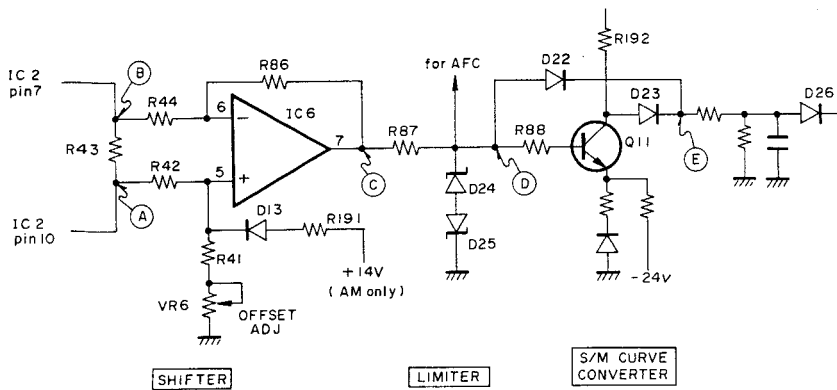
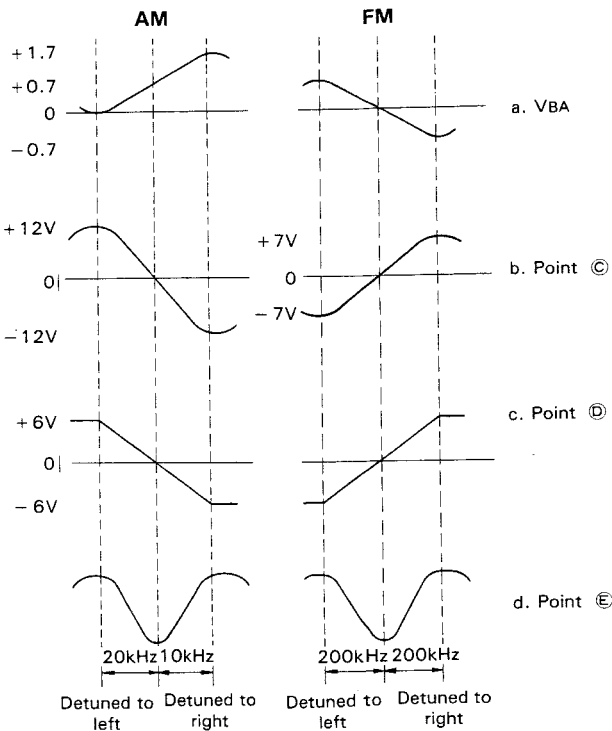

Fig. 7 S-Curve Detector
Fig. 8 Voltages at Each Point in Figure 7
This circuit detects the S curve signal and passes through the $\pm 6 \text{ V}$ limiter where the AFC signal is obtained, then the S curve signal is converted into the M curve signal to detect the correct tuning point. Potential changes at points (A)~(E) shown in figure 7 are shown in figure 8.
The S/M curve converter is provided to detect the correct tuning point (0 V cross point of S curve) exactly. Q11, D22 and D23 change their states as shown in table 4 according to the polarity of the signal at point (D), and the output waveform is as shown in figure 8-d. This signal is applied to the base of Q12 through D26.